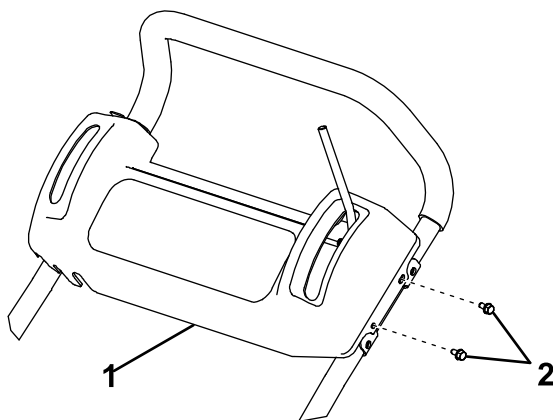

Figure 1
1. Remove the 2 bolts securing each end of the console panel to the handle bar (Figure 1).
- Secure each end of the console panel to the handle bar with the 2 bolts previously removed (Figure 1).